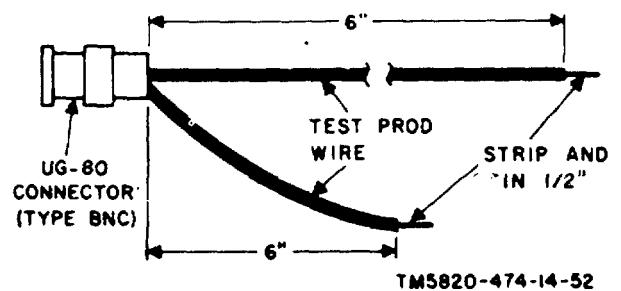

Figure 52. Test cable No. 7, construction details.
g. *Test Cable No. 7* (fig. 52). Test cable No. 7 is used to connect the output of the AN/URM-25A impedance adapter to the input of the receiver. One cable is required.